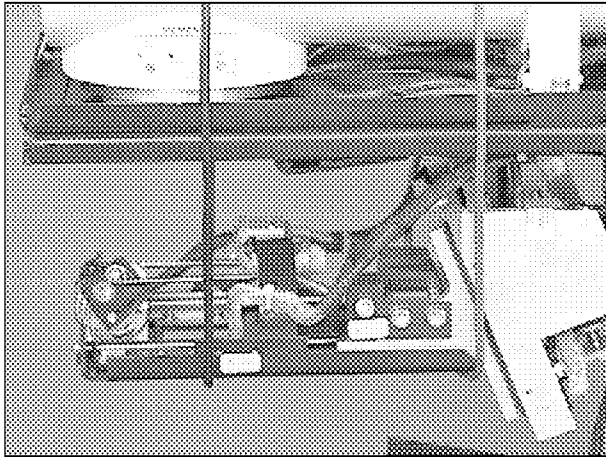

Fig. 11
- Secure the focus correction device according to Fig.11 (e.g. with cable ties)